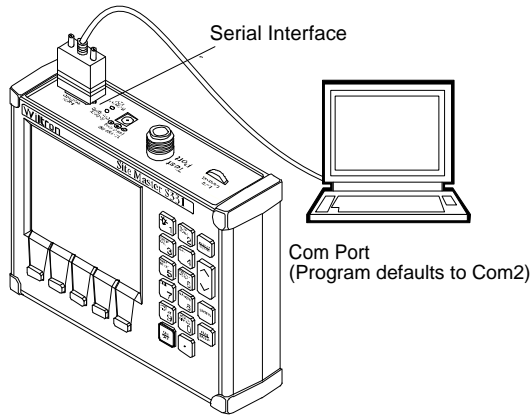

Figure 3-3. Equipment Setup for Sitemaster Tools Operation
- Step 1.** Connect the supplied cable as shown in Figure 3-3.